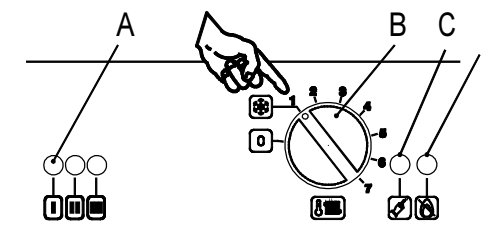

Figure 5.2
- The appliance operation light A (figure 5.2) will flash every 4 seconds (stand-by mode).
- 2 Turn on the electricity supply to the boiler, switching on the circuit breaker. The appliance operation light A (figure 5.2) will flash every 4 seconds (stand-by condition).
- 3 If the boiler is to be used for c.h position the function selector B as in figure 5.2. The appliance operation light A will flash every 2 seconds (operating boiler).